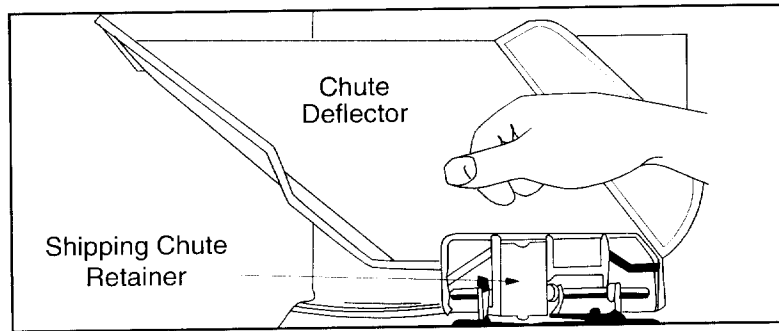

Figure 11
- The chute deflector on your mower is held in an upright position by a retainer for shipping purposes only. This shipping retainer must be removed and discarded before the mower is put into operation. See Figure 11. To remove the shipping chute retainer, move the spring-loaded chute toward the engine by pushing above the retainer. Remove the retainer and carefully lower the chute into operating position. Tighten bolts securely.